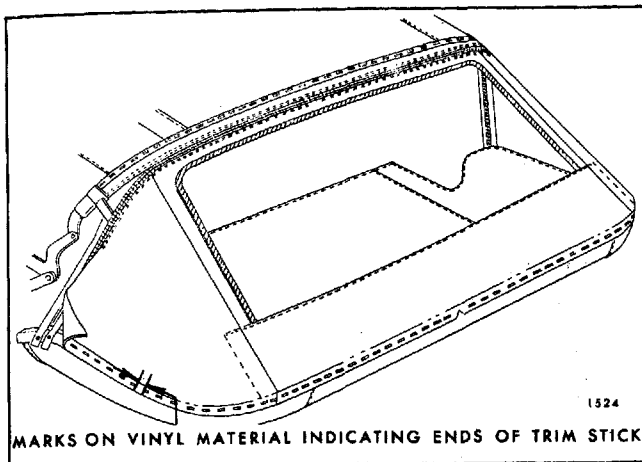

Fig. 6-12—Marking Back Curtain
29. Using chalk, or other suitable material, mark ends of rear quarter trim sticks on vinyl surface of back curtain material (Fig. 6-12). Reference marks for trim sticks should be